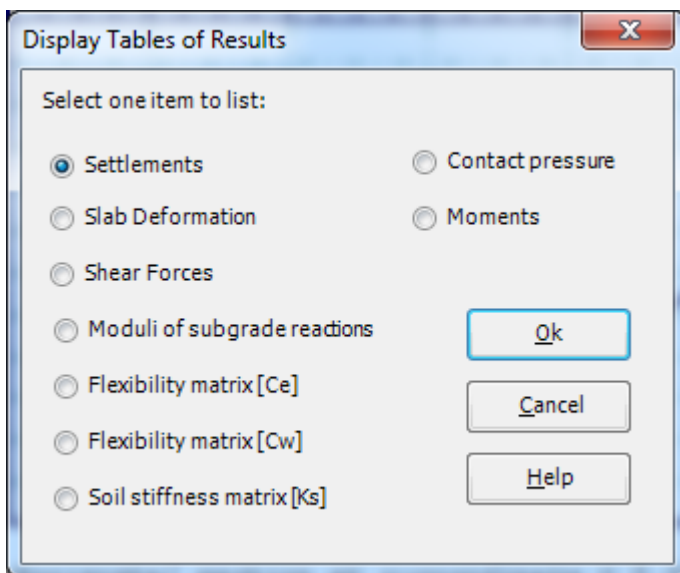

Figure 10.42 "Display tables of results" option box
- Choose "Display Tables of Results" command from "List" menu. The following option box in Figure 10.42 appears